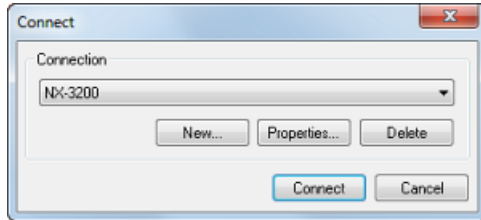

FIG. 196 Connect dialog
1. In TPDesign5, select **Transfer > Connect** to open the *Connect* dialog (FIG. 196):